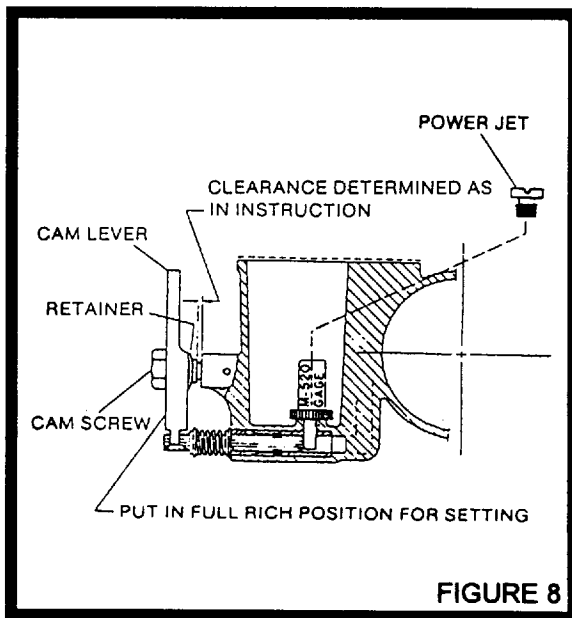

FIGURE 8
- 82) Lubricate the journal of new cam screw (10) assemble in cam lever (81).
- 84) Assemble new retainer ring (63) on cam screw (10).
- 85) NOTE: Special care needs to be taken to be sure the retainer ring is properly assembled on screw and in groove, as illustrated in Figure 8.
- 89) Assemble cam lever assembly (81) in carburetor by turning the cam screw until the cut-off valve contacts the M-520 gage with the cam lever in full rich position (See Figure 8).
- 92) Remove the cam lever, screw and retainer assembly (81) and M-520 gage. Assemble spacer washer(s) (reference parts list) on cam screw equal in thickness to the average measured clearance.
- 94) Assemble cam lever screw and retainer assembly (81) with spacer washers into carburetor and tighten the screw (10) to 60-70 inch pounds.
- 96) Assemble set screw (14) with Loctite #242 applied to set screw. Center punch and drill cam screw using previous drilling in boss for location using .089-.093 diameter drill.